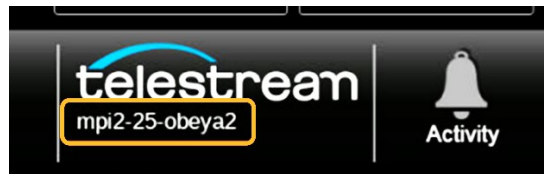

Figure 26: Status bar with sample hostname marked
1. Find the PRISM hostname: on the Status bar, under the Telestream logo, next to the Activity icon. (See Figure 26.)